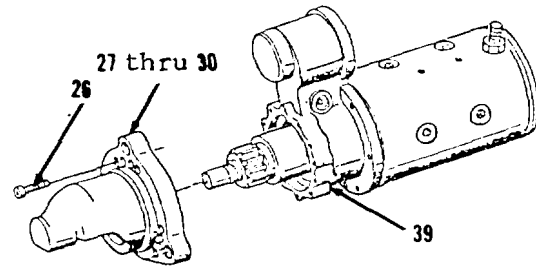

Figure 4-74.
22. Remove six screws (26) and items 27 thru 30 as an assembly from housing (39, Figure 4-74).